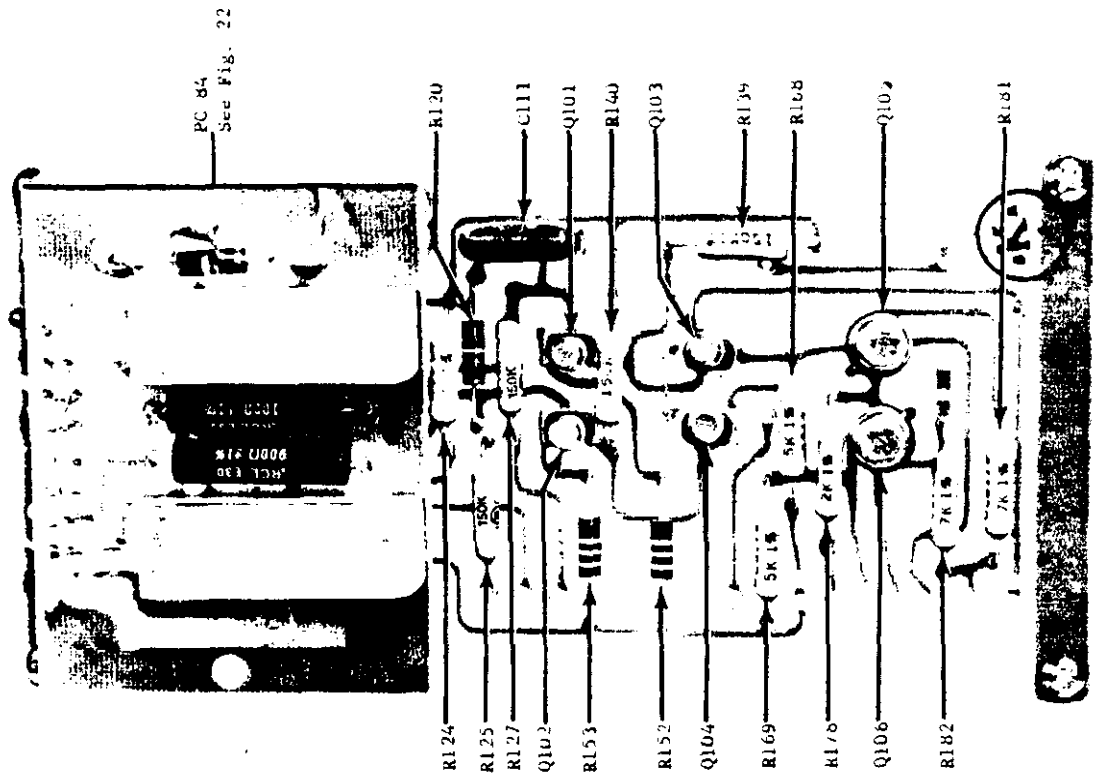

FIGURE 21. Component Locations on Printed Circuit 85.
3. Check the next stage by connecting the voltmeter across the emitters of Q101 and Q102 (Figure 21) and adjusting the COARSE and MEDIUM ZERO Controls for null. If a null is not reached, check this stage and the base circuit of the next stage. Check the base circuit by removing transistors Q103 and Q104 and again adjust for null. If null is now reached, replace the transistor pair with a new pair.
4. Check the next stage by connecting the voltmeter across the collectors of Q103 and Q104 (Figure 21), and adjusting the COARSE and MEDIUM ZERO Controls for null. If a null is not reached, check this stage and for shorts in the base circuit of Q105 and Q106.
b. Connect the floating Model 662 across the collectors of transistors Q105 and Q106 (this is across the ends of resistors R181 and R182, Figure 21). Make the connections from the component side of the printed circuit board. Float the Model 662 ground terminal.